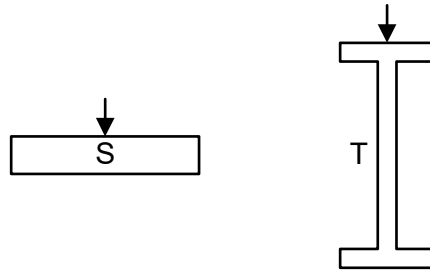

Fig. 7.5
- (a) The cross-sectional area of the beams S and T shown in Fig. 7.5 are the same. The beams are made of the same material.
State and explain, for beams of the same length in the orientation shown in Fig. 7.5, which beam would sag more when loaded from the top.